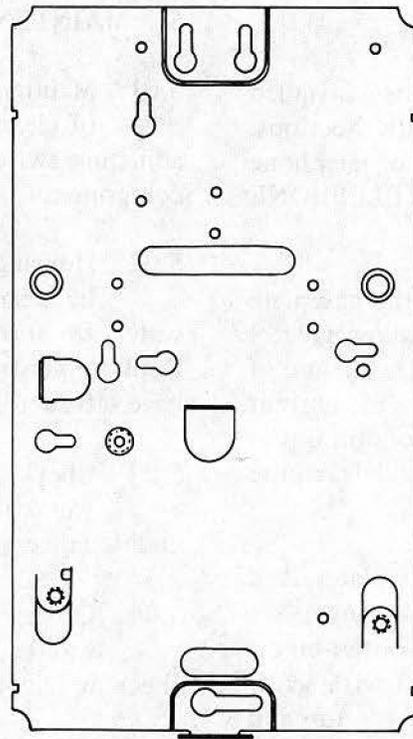

Fig. 13 - Present Production Baseplate (Wall Telephone)
4.02 Several holes are provided in the baseplate of the wall telephone set to allow greater flexibility in mounting and to minimize the use of a backboard (Fig. 13). Baseplates of current manufacture may be mounted on a conduit outlet box. Baseplates of early production models require modification.